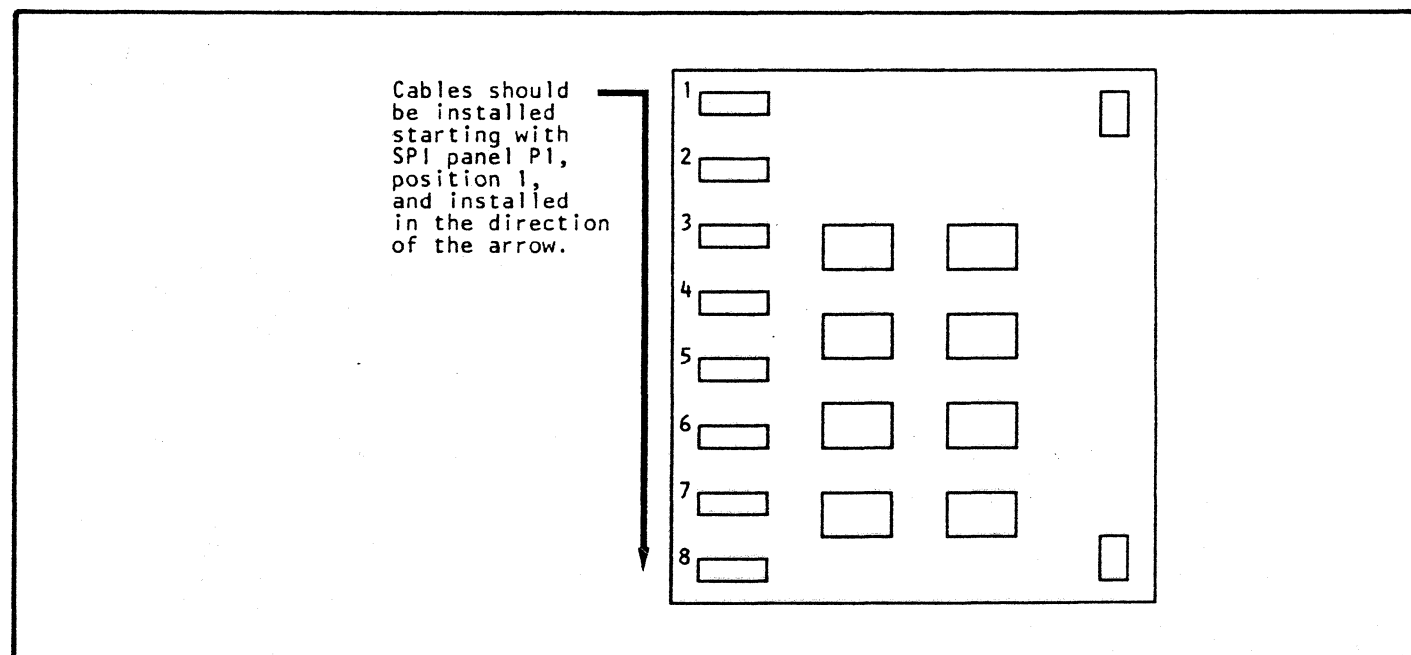

FIGURE 12
- d. Plug the SPI cables in the direction shown by *Figure 12* until all SPI cables are plugged.